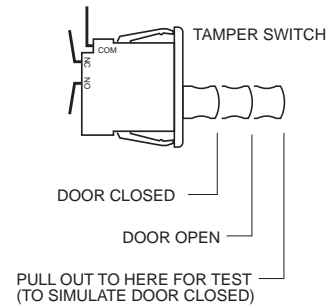

Figure 2. Tamper/Interlock Switch
6. If a panel ground terminal is desired, attach it to one of the mounting stud locations using a ring-type terminal as shown in Figure 2.
9. **Complete the Tamper/Interlock Switch wiring using the Push-on Crimp Terminals provided. See Figure 2 below.**